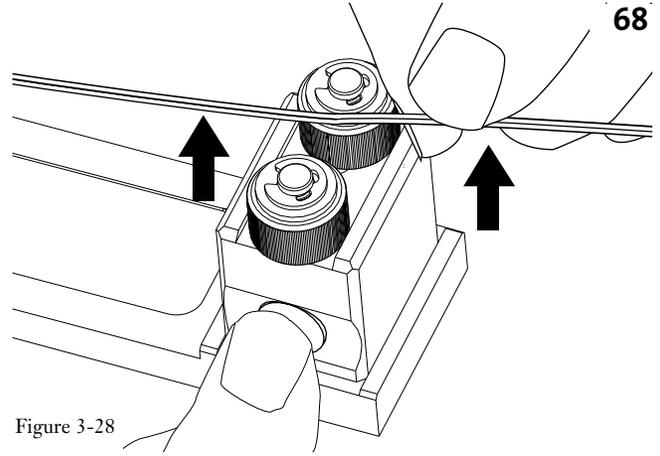

Figure 3-28
**3.7-8** Remove the fiber from the index rollers by pressing the release button and lifting it out (Figure 3-28).